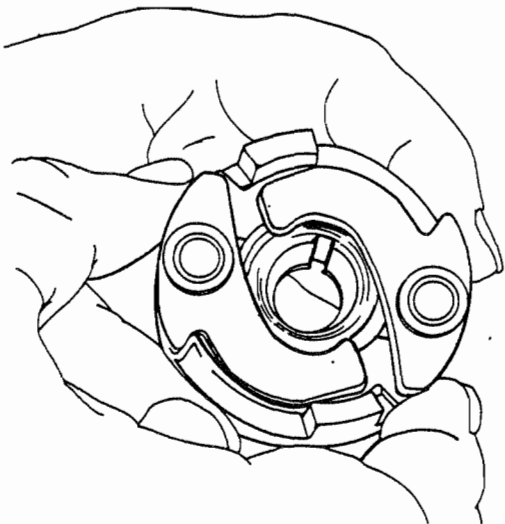
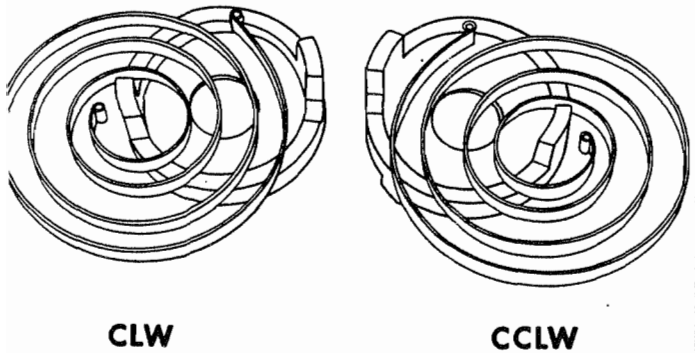
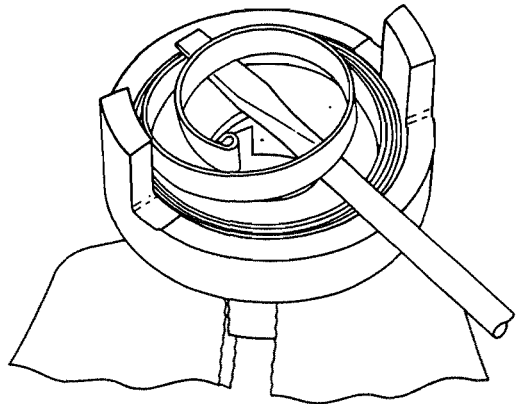

Figure 918. Checking Impulse Coupling for Magnetization
Figure 919. Orientation of Spring In Coupling Body
Figure 920. Lifting Inner End of Spring
- A. Check cam assembly (48) and body (46) for magnetization which would prevent flyweights from engaging. Hold assembly as shown in Figure 918 and push upper position flyweight tail against body (46). When released, flyweight tail must drop down. If flyweight tail sticks to body, parts are magnetized and coupling may not function. Perform test on both flyweights.
- B. To demagnetize, place body (46) over shaft of a charged rotating magnet and spin body rapidly by hand. While body is still spinning, invert rotating magnet so body falls off. Catch body in hand and repeat test for magnetization.
- C. Clamp one drive lug of body (46) in a padded jaw vise with the spring recess side up.
- D. Orient spring (47) with body (46) for correct rotation. On clockwise couplings, spring must coil in a clockwise direction from the outside toward the center when viewed from the spring recess side of body. On counterclockwise couplings, spring must coil in a counterclockwise direction when viewed from spring recess side. Insert eye of outer end of spring (47) into hole drilled in inner rim of body (46). See Figure 919.
- E. Using heavy gloves to protect the hands, wind spring (47) into body (46) manually, lifting spring coils one at a time over projections on body. Extreme care should be used to avoid scratching or nicking the spring. After winding spring, brush a coating of light oil (such as clean engine oil) over spring coils.
- F. Pry up one and one half turns at inner end of spring with a small screwdriver and support in position as shown in Figure 920.